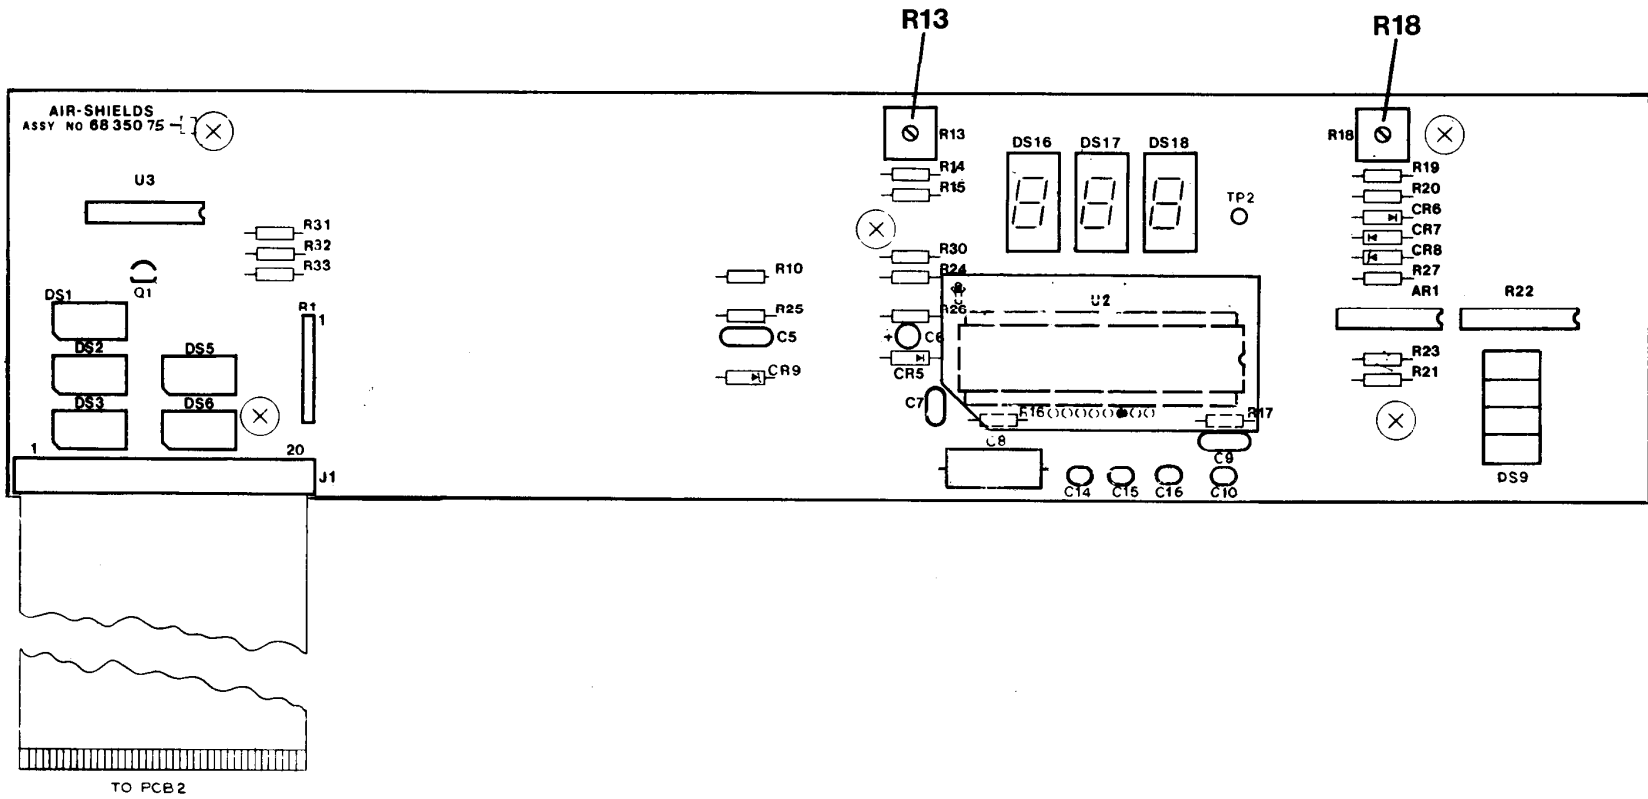

FIGURE 5.4 PCB1 (MODEL C200), LOCATION OF TEST POINTS AND ADJUSTMENTS
2. Connect the Simulator to the AUXILIARY PROBE jack on the Side Panel. Set the Simulator to  $36^\circ\text{C}$ . Set the Simulator to AIR mode. Refer to Figure 5.4 for location of test points and adjustments.